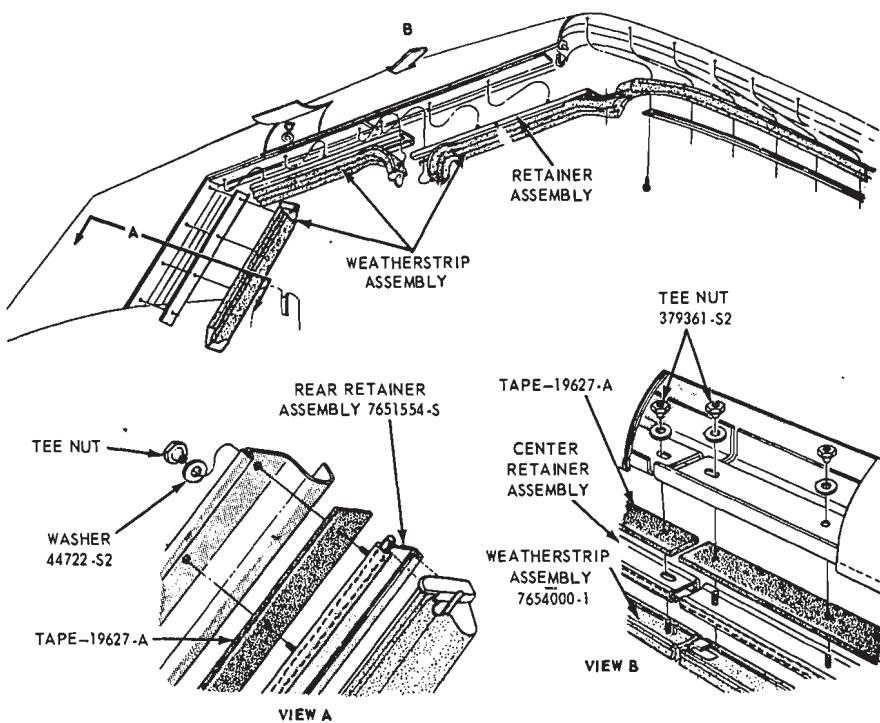

FIG. 13—Convertible Top Weatherstrip—Fairlane
2. Remove the screws attaching the weatherstrip retainer to the No. 1 bow and remove the retainer (Fig. 13).
2. If removing the center weatherstrip, remove the three retaining tee nuts and separate the retainer from the side rail. This is not necessary on the rear side rail (Fig. 13).
2. To install the center side rail weatherstrip, position the weatherstrip in the retainer and position the retainer to the side rail and install the three retaining nuts (Fig. 13).